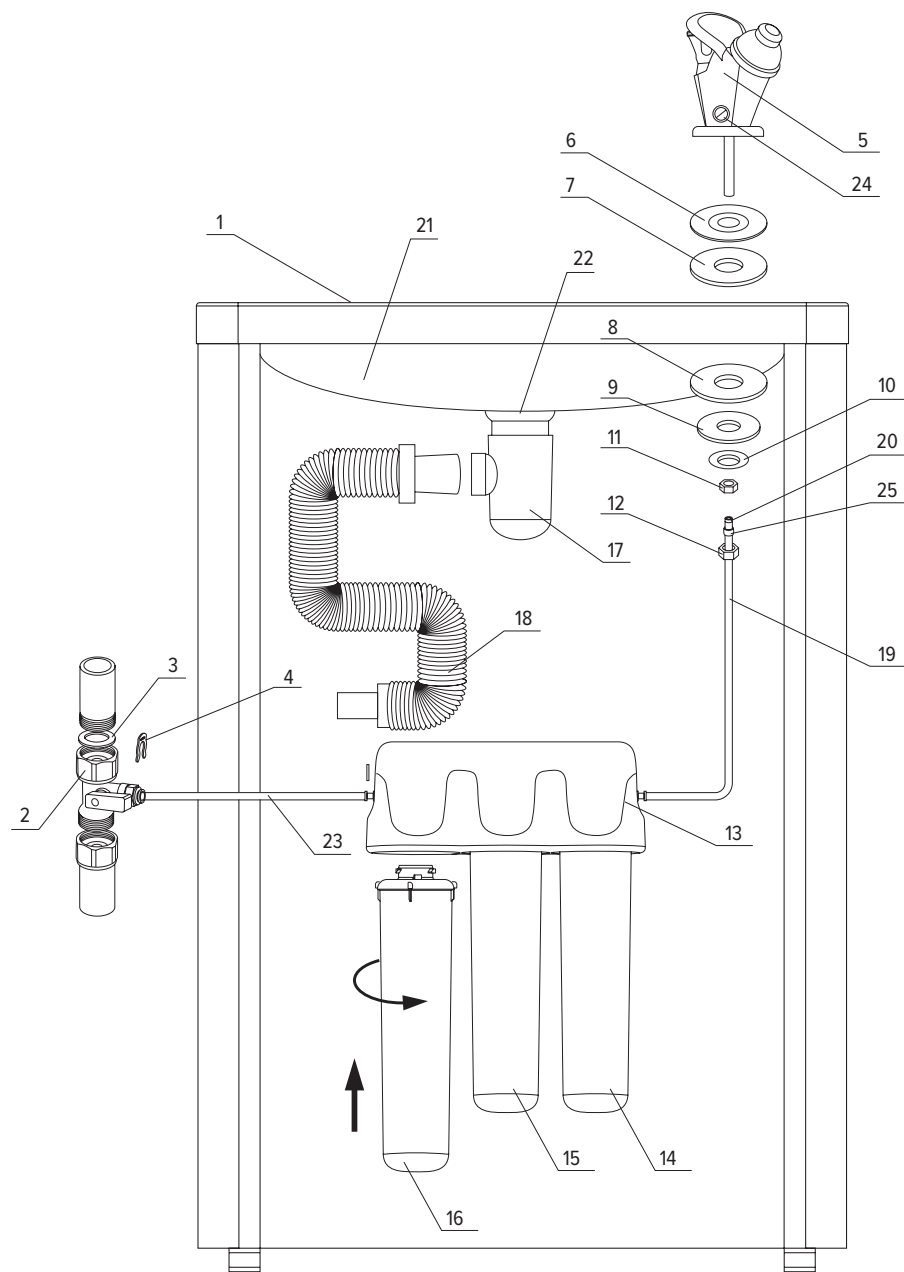

Fig. 1
The installation diagram of the Fountain is shown in Fig. 1.
- Determine a convenient place for installing the connection assembly (2) to the water supply system (see Fig. 1. Installation diagram). Please note that the connecting tubes pass freely, without kinks. The free sections of the pipes must be secured so that they cannot be damaged or pulled out of the connections by foreign objects.